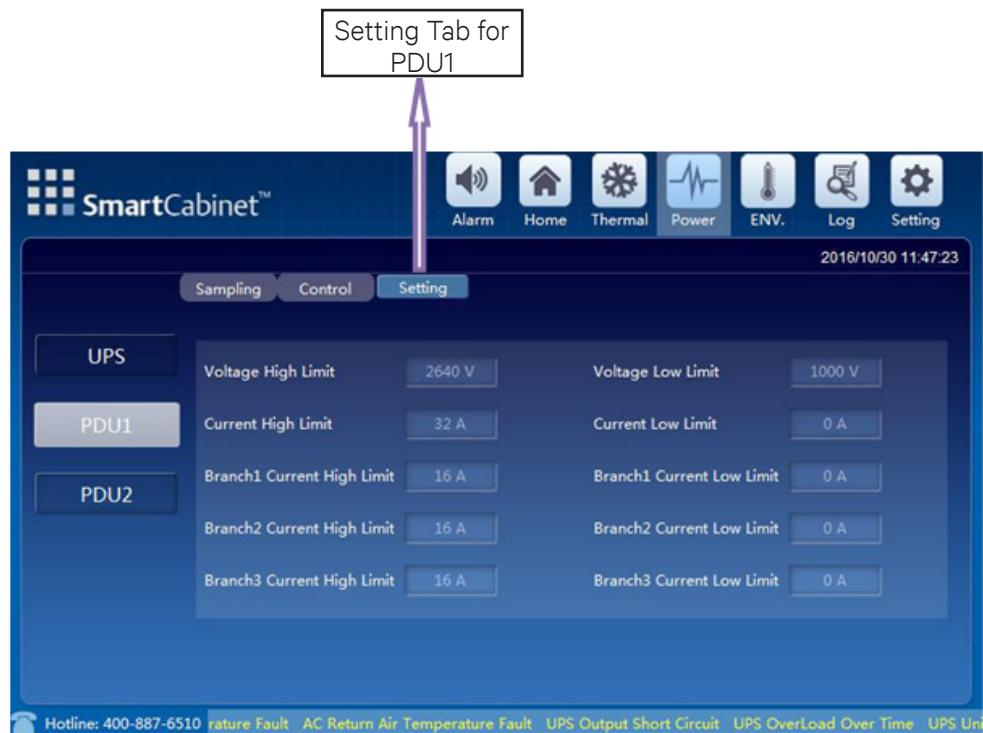

Figure 4-11 Settings for PDU1
- To change the settings, click Setting tab (next to the Control tab). A prompt for the password will be displayed wherein valid credentials need to be entered in order to gain access to the settings. On entering the valid password, the PDU settings screen is accessible as shown in Figure 4-11.